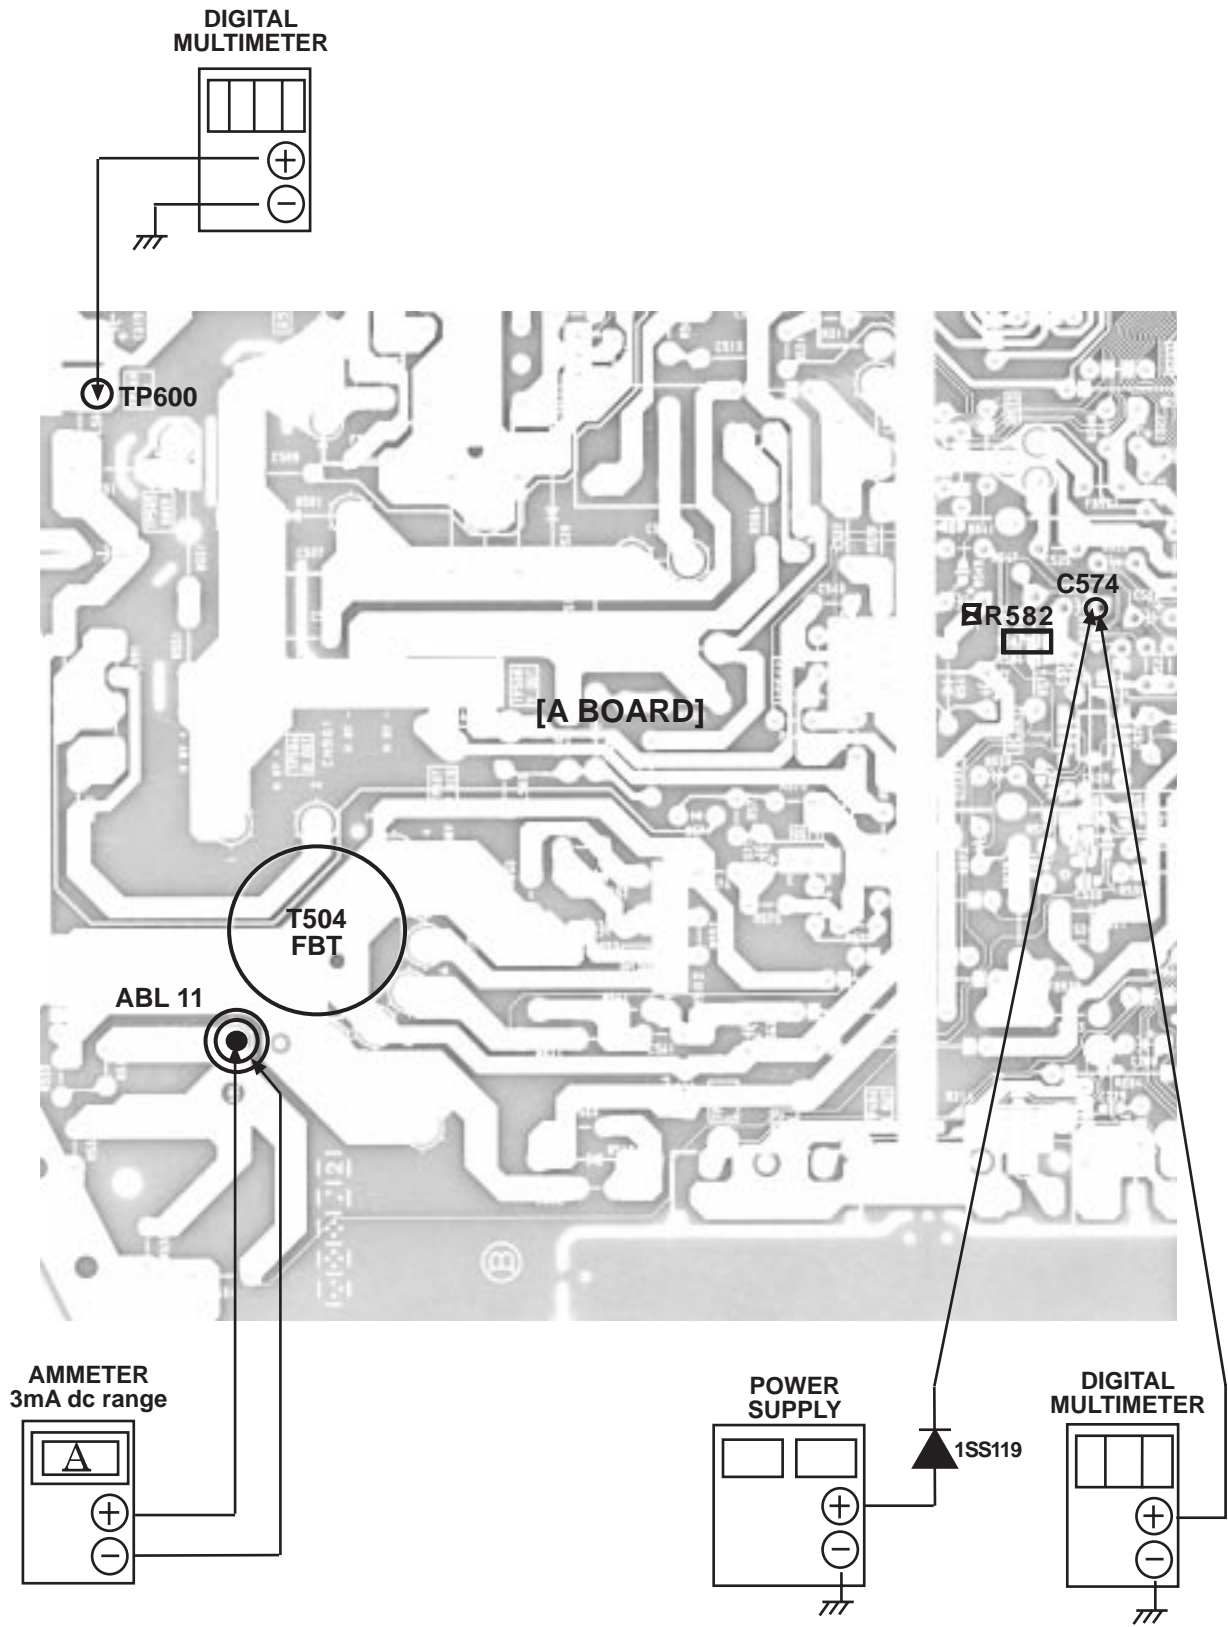

Figure 1.0
- 4) Connect the Digital Voltmeter and the DC power supply via diode 1SS119 to C574 (+). (See figure 1.0 on next page.)